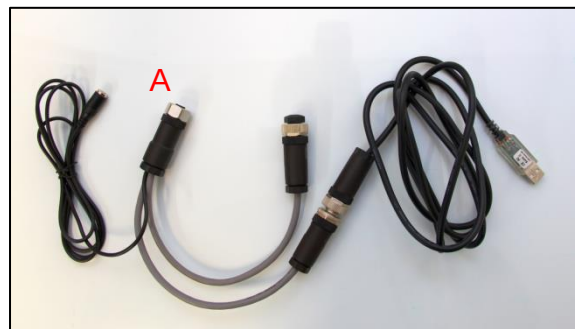
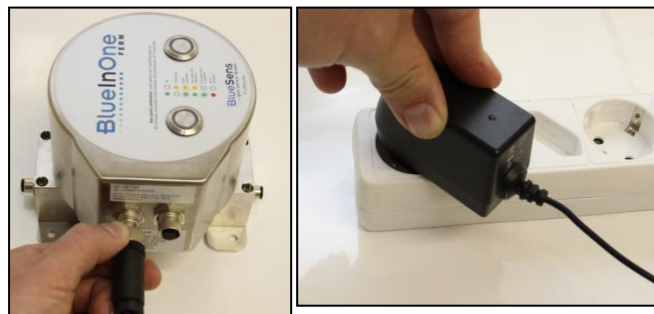

Fig. 9: connect cables
Fig.10: Connect the BlueInOne
2. Connect the adapter for M12 (8pol) to USB (RS232) (ser. no.: Z-KA-00019) with the M12 socket of the connection cable for BlueInOne (fig. 9). Tighten the screwed ring.
3. The spare M12 socket with the attached power cable (fig. 9: A) must be connected with the M12 connection port (port A) of the BlueInOne (fig. 10). Put the power adaptor into the mains socket (fig. 10).